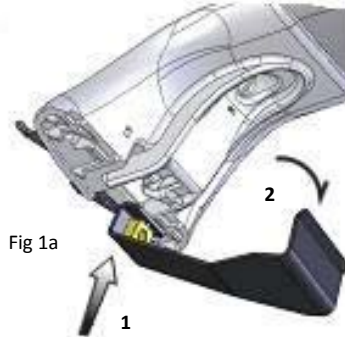

Fig 1a
3. Feed the Strap neck through the cavity in the End Support (Fig 1a). When the Neck is through rotate the Strap down and then push up to align the bolt hole and the cage nut.